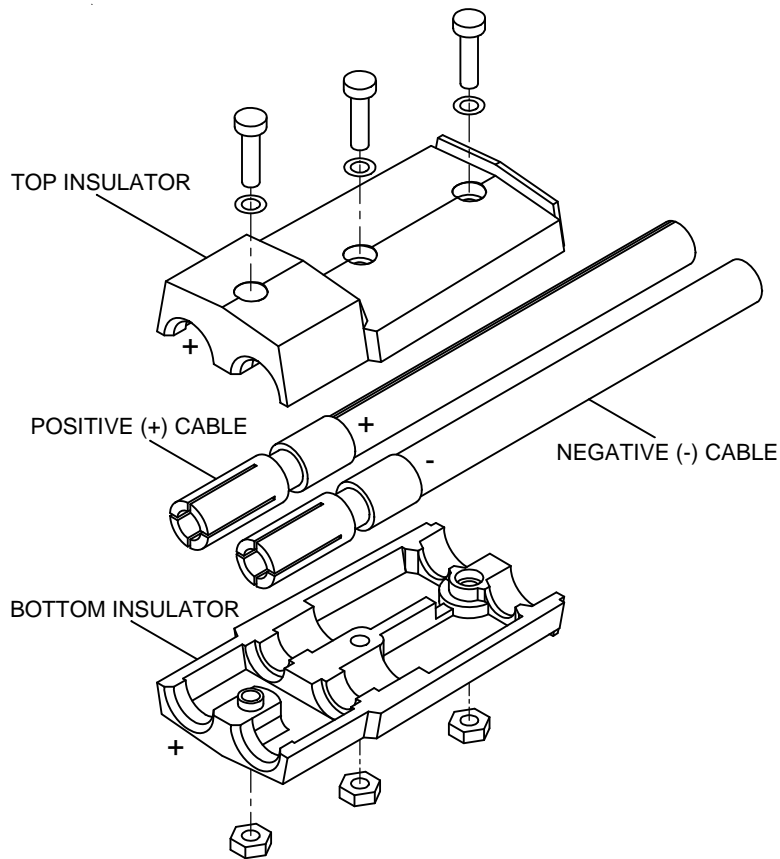

FIGURE 1.
7. Place the female jacks into the molded top and bottom housing. Facing the jack end of the molded housing the positive cable is placed on the left and negative on the right. See Figure 1